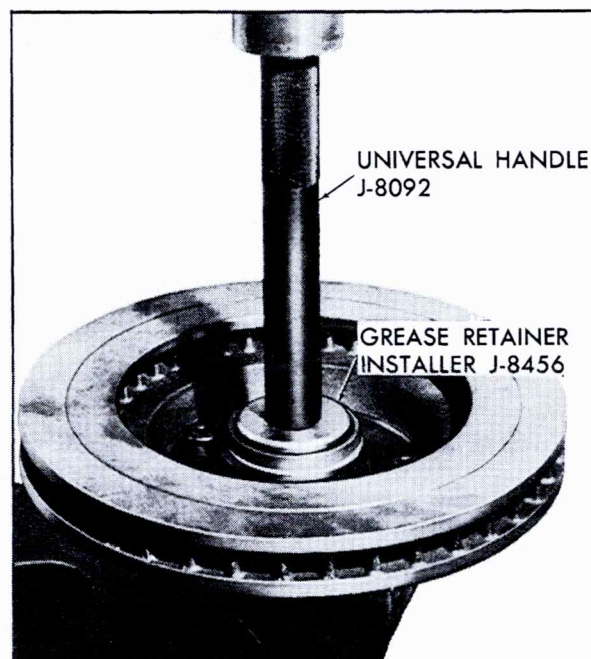

Fig. 3-30 Installing Grease Retainer
6. Install new grease retainer, using Front Wheel Hub Grease Retainer Installer, J-8456, and Handle, J-8092. Use arbor press to install grease retainer in hub, Fig. 3-30.